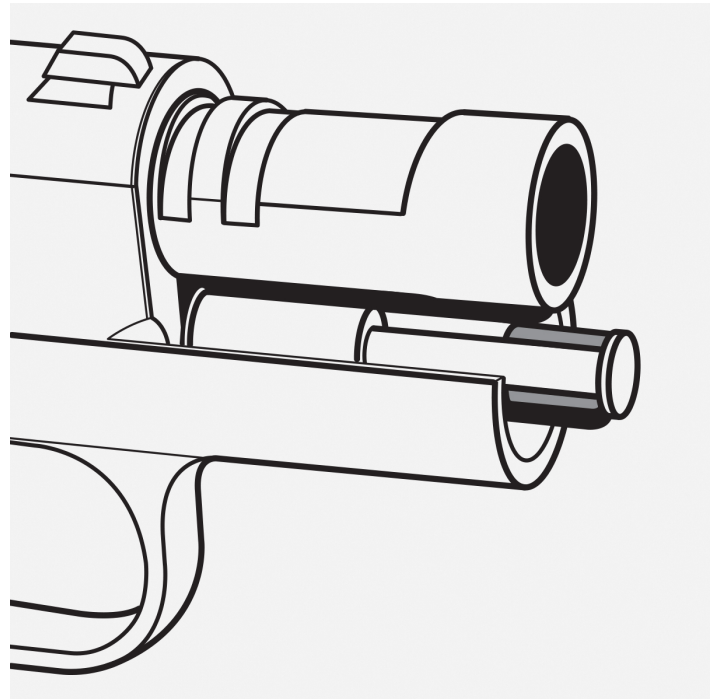

Figure 43-2
2. Firmly “snap” the takedown piece over the exposed portion of the guide rod between inner spring plug and guide rod cap. (See fig. 43-2)